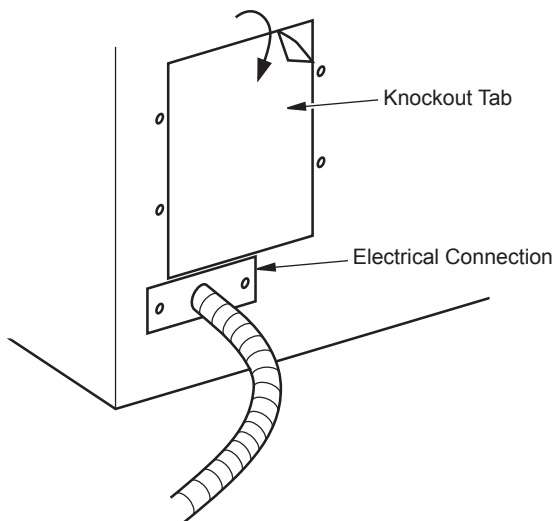

Figure 1
1. Remove large knockout tab (see Figure 1).